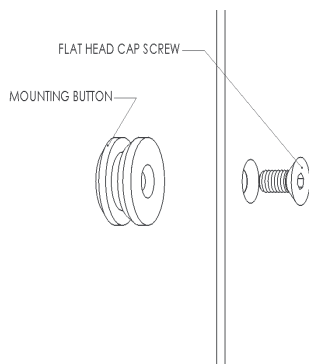

Figure 2
1. Using a 10-24 flat head cap screw inserted from the backside of bracket, secure mounting button, with chamfered hole of mounting button (larger surface) facing bracket, to bracket (four places) (See Figure 2).